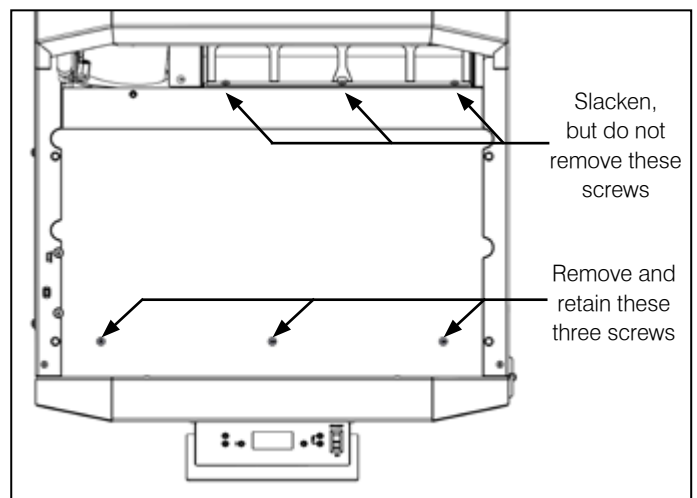

Figure 11-2: Top access cover
- Undo and remove the three screws at the front of the top access cover. Refer to Figure 11-2.
- Slacken, but do not remove the three screws at the rear of the top access cover. Refer to Figure 11-2. Remove the top access cover from inside the top of the boiler.